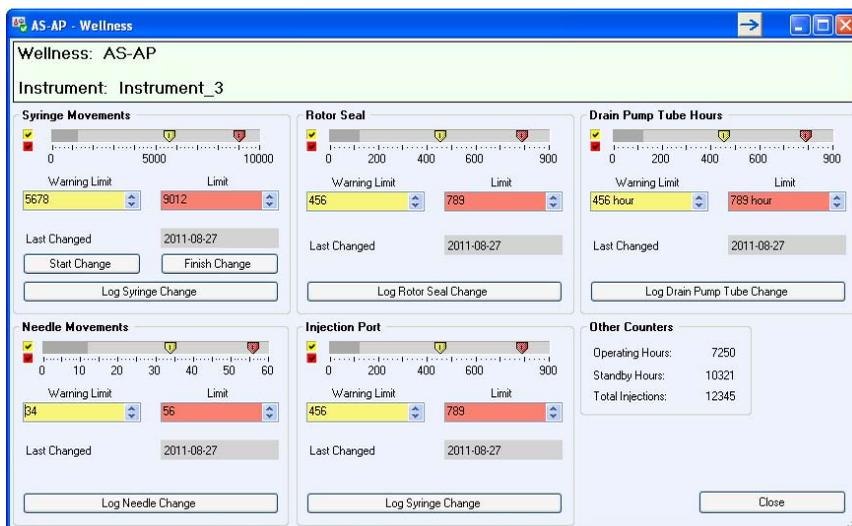

Figure 5-11. Wellness Panel (Chromeleon 7 Version Shown)
2. On the Dionex AS-AP ePanel (in Chromeleon 7) or Control panel (in Chromeleon 6.8), click **Wellness**. The Wellness panel opens (see Figure 5-11).